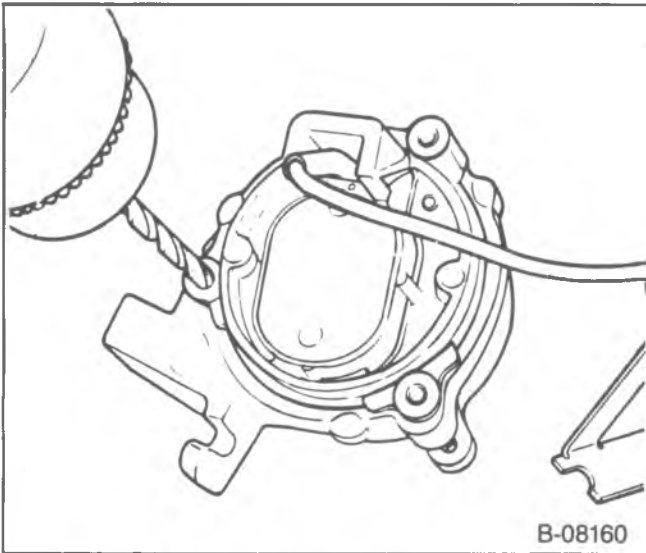

Figure 9—Drilling the Choke Coil Rivets
- Align a #21 drill (0.156-inch) on the rivet head and drill only enough to remove the rivet head (figure 9).